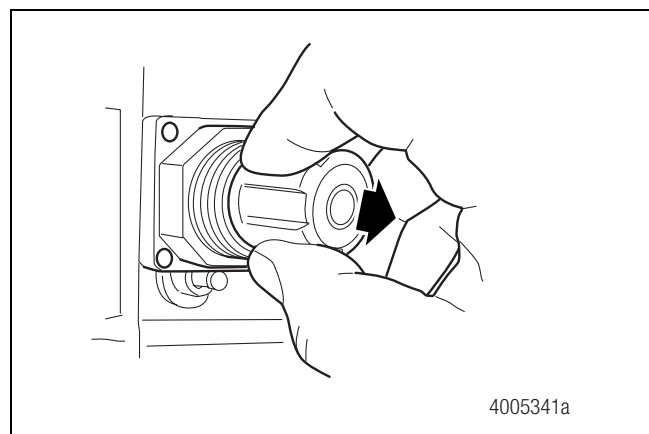

Figure 3.16
8. If the air pressure is incorrect, adjust the pressure regulator. First pull out the control knob, then turn the control knob in approximate 1/8-turn (45 degrees) increments. Figure 3.16. Turn the knob CLOCKWISE to increase pressure or COUNTERCLOCKWISE to decrease pressure.